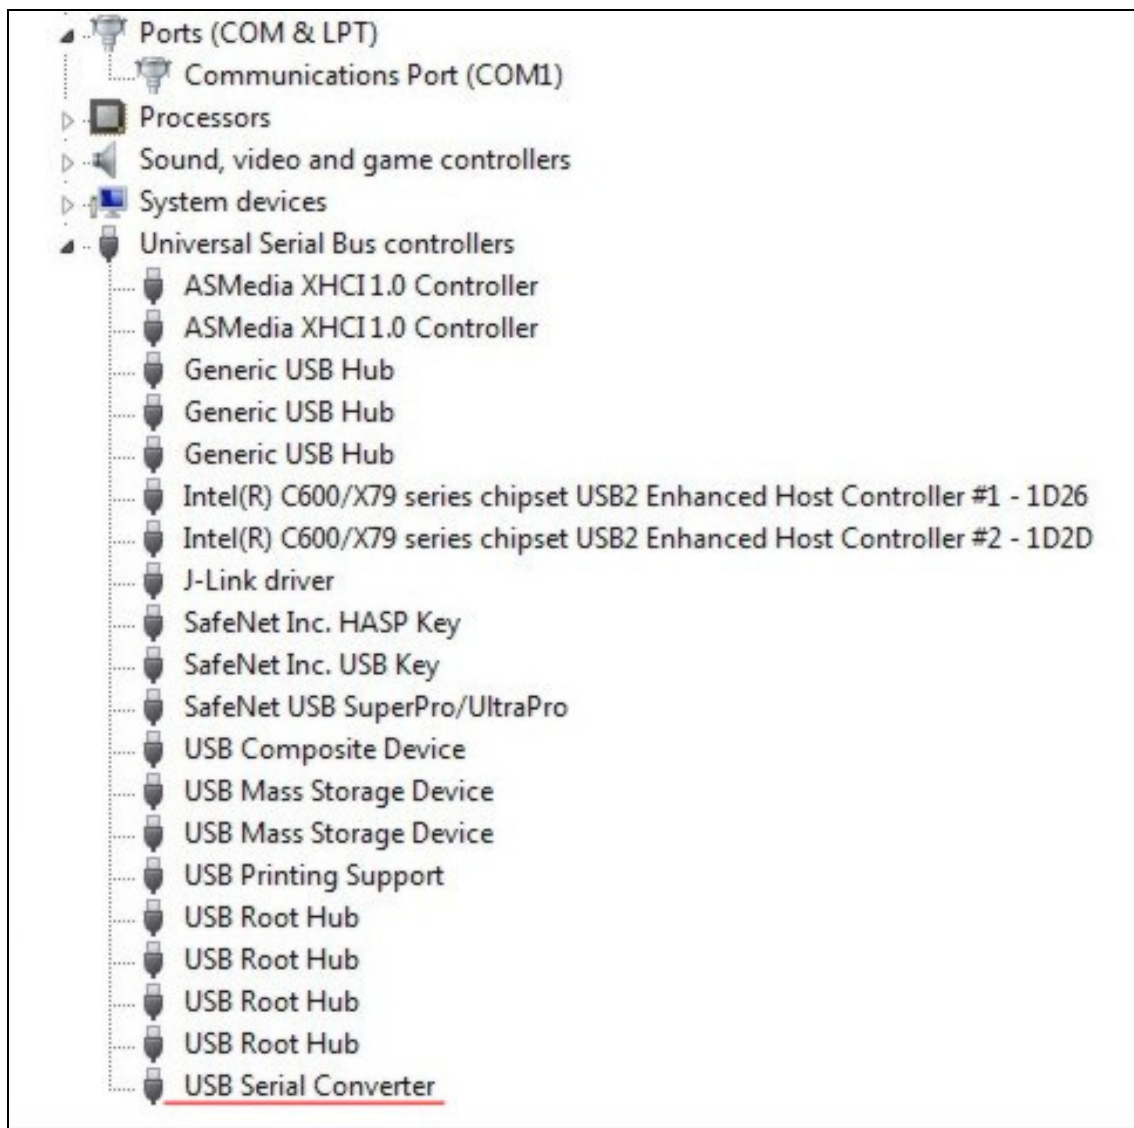

Figure 1
2. Open Windows *Device Manager* and expand the USB Controllers section as shown in Figure 1.
4. Your computer should recognize the AVW-PCAP and a new entry “*USB Serial Converter*” should be listed as shown in Figure 1.